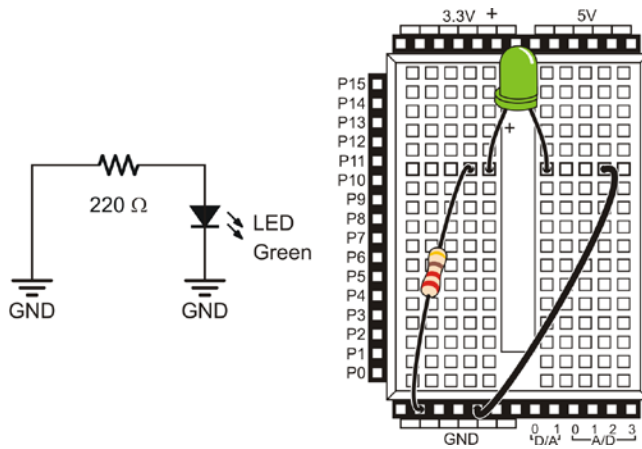

Figure 2-9
- Unplug the resistor lead from the 3.3V socket, and plug it into a socket labeled GND as shown in Figure 2-9.